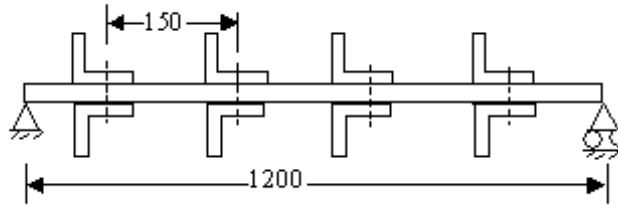

Figure 4b
- (b) Determine the crippling stress of the panel, formed with hat-section stiffeners, as shown in figure 4b. Take $\sigma_{cy}=470\text{MPa}$ and $E=70\text{GPa}$ for stiffeners while $\sigma_{cy}=280\text{MPa}$. [4+12]